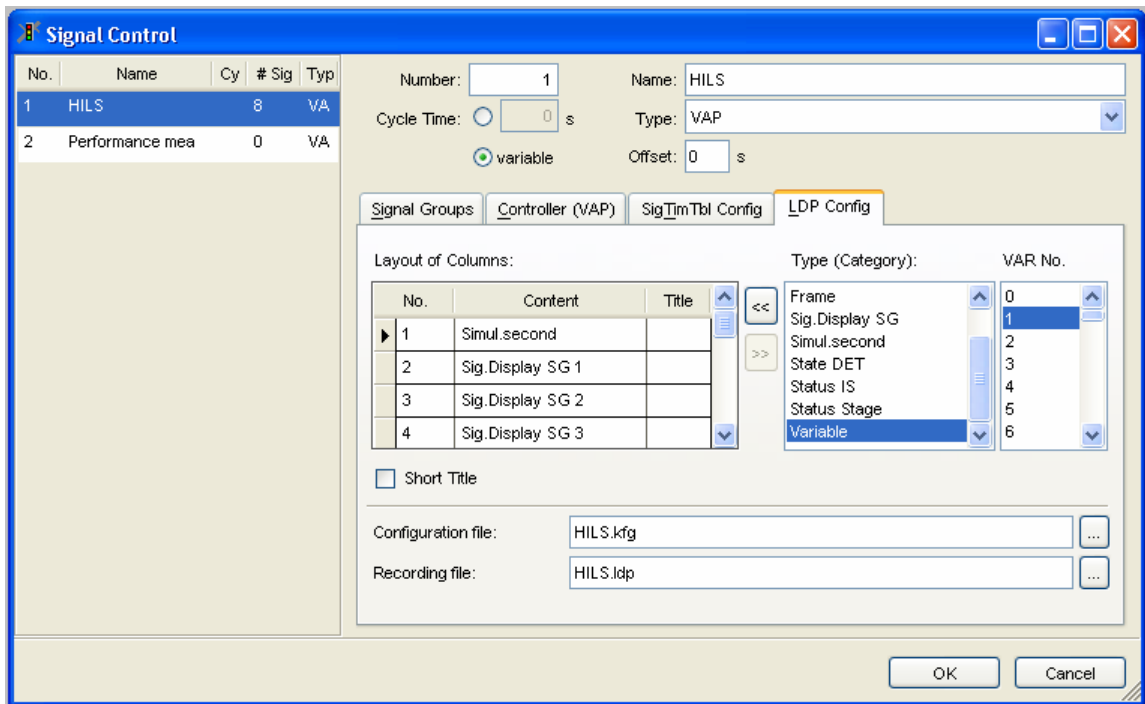

Figure 14. The “VAR NO.” in the “Signal Control” window.
- Record_value (<var_no>, <value>): Passes <value> to VISSIM in order to be displayed as a variable in the signal display and detector status file. The value in <var_no> corresponds with the value selected under the heading “VAR No.” in the “Signal Control” window as the highlighted on the right side of Figure 14 . <value> may be a number, a variable or a function.